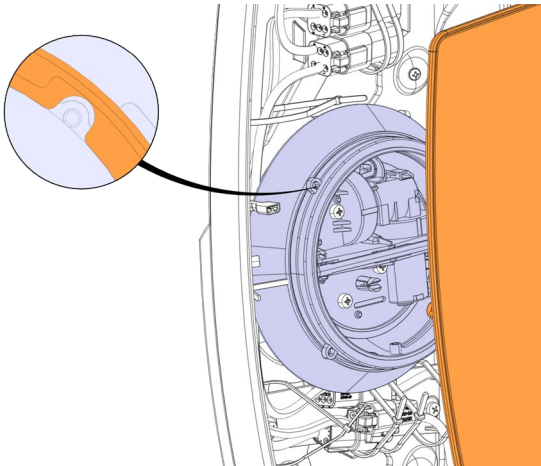

FIGURE 107
8. Install the new glass mirror pin (4x) into the motor holes (4x) (Figure 107).